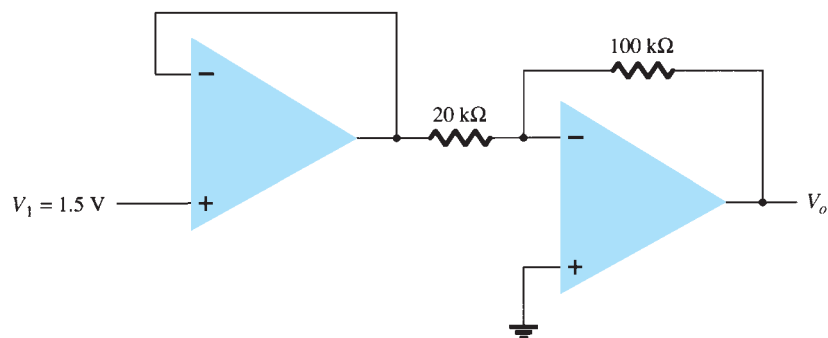

FIG. 10.71
12. Calculate the output voltage for the circuit of Fig. 10.71.
- *28. Use Schematic Capture or Multisim to calculate the output voltage in the circuit of Fig. 10.71.